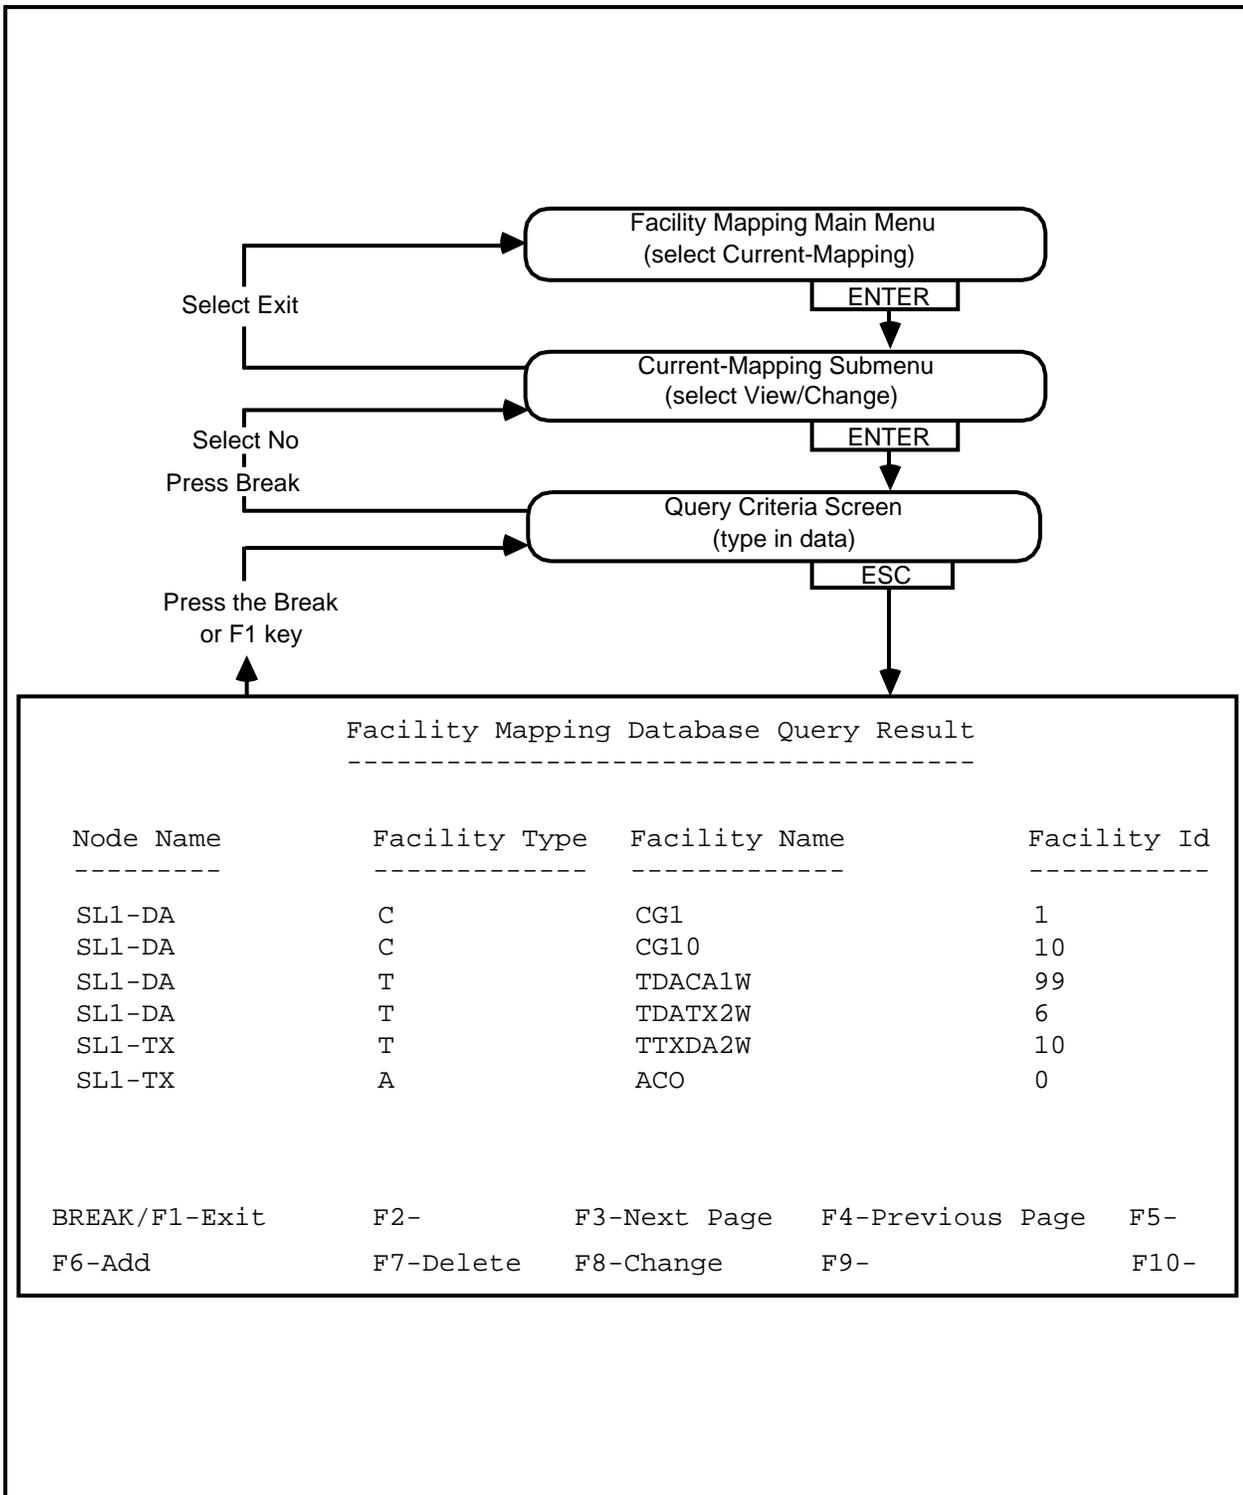

Fig. 7-4
7.11 The Procedure for Viewing Existing Facility Mappings. To query the database to view the table of facility mappings (see Fig. 7-4) proceed as follows:
==> The mapping are displayed in table form (see Fig. 7-4). Use the **F3** and **F4** function keys to page through the information.